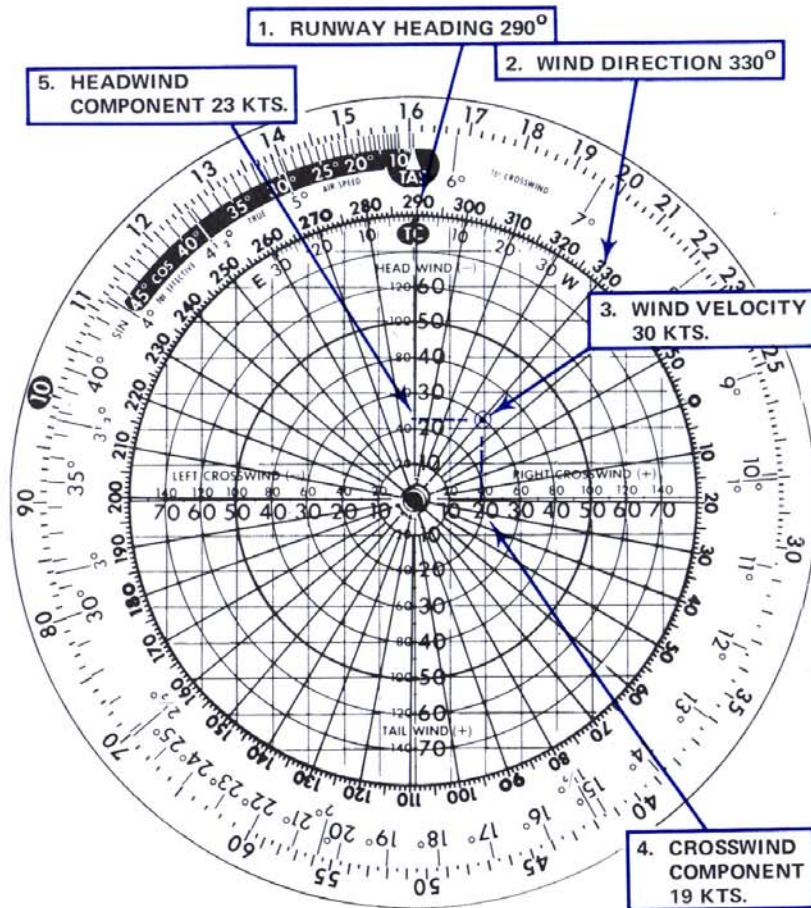

Fig. 37
1. Set runway heading over the true course (TC) as shown in figure 37.